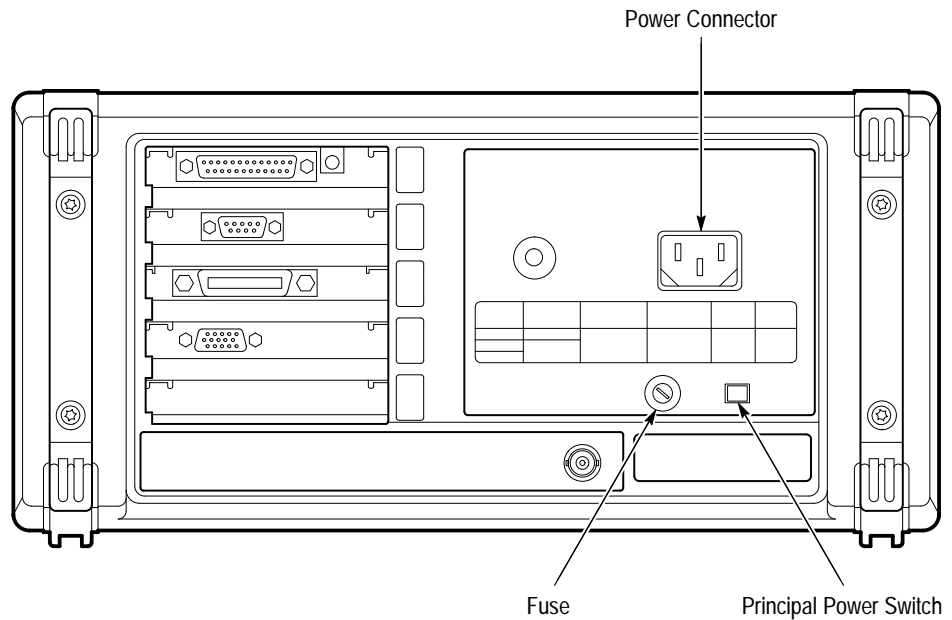

Figure 1-1: Rear Panel Controls Used in Start Up
1. Check that the rear-panel principal power switch is on (see Figure 1-1 for the location of the switch). The principal power switch controls all AC power to the instrument.